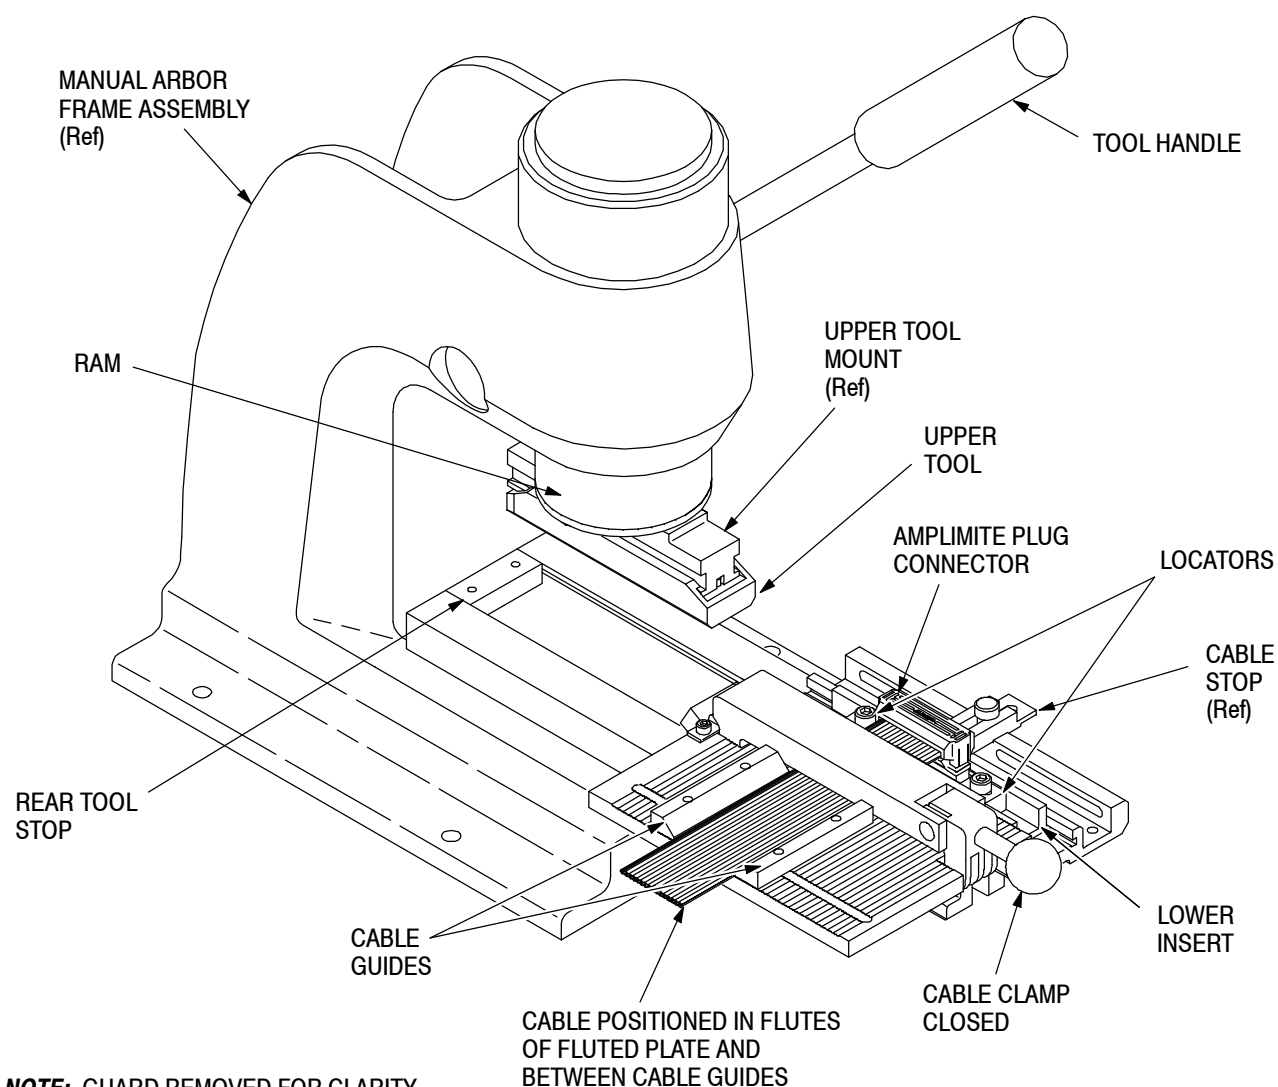

Figure 2
1. Install the connector-specific kit onto the universal arbor tool; then set up the tooling components for termination. Refer to the instruction sheet supplied with the connector-specific kit. See Figure 2.
2. Place cable into the flutes of the fluted plate, as shown in Figure 2.
4. Slide cable through the connector so that the end of the cable is against the cable stop. The cable must be positioned between the cable guides. When cable is properly positioned, close the cable clamp. See Figure 2.